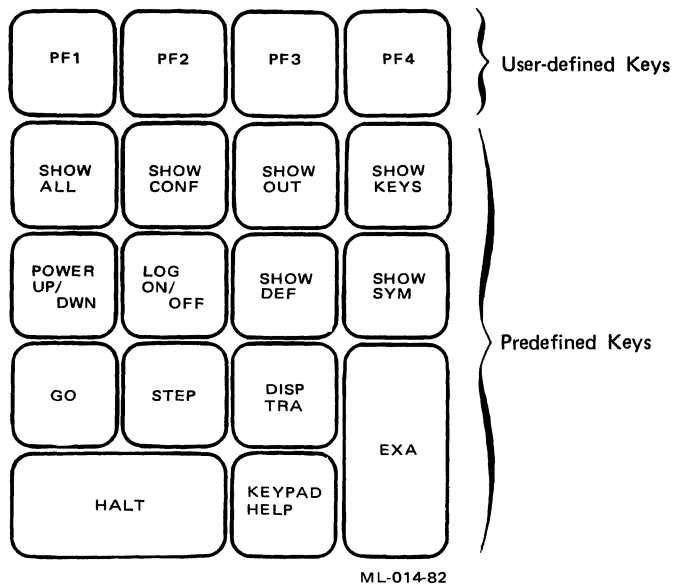

Figure 4-1 MDE/T-11 Command Keypad
4.1.2.1 **Predefined Keys** - Fourteen frequently used MDE/T-11 commands have been assigned to keys on the keypad (Figure 4-1). You can execute these commands by pressing a single key. When you enter predefined commands by using the keypad, the commands are echoed to the terminal and are recorded in a log file, if you have created one. (See Section 4.3.)